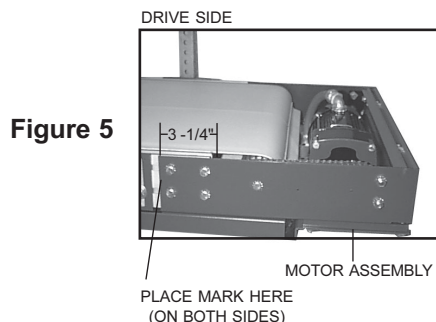

Figure 5
- 11) Mark the edge of the motor assembly plates against the frame on the non-drive side on the hopper end (**see Figure 5** - overlap is preset at 3-1/4") (make sure you align the frame overlap with your marks during